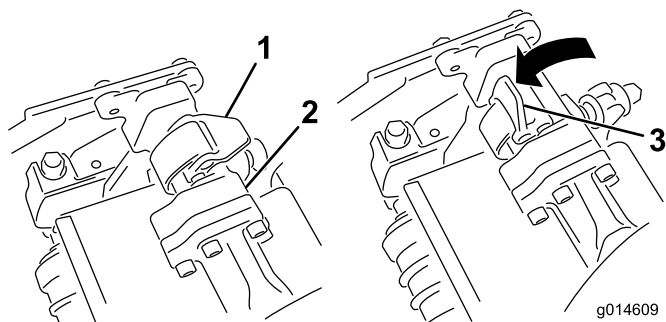
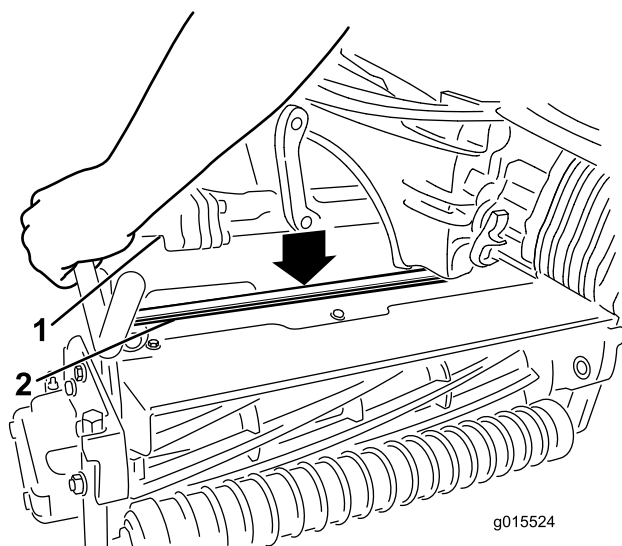

Figure 13
Figure 14
9. With the latches on the suspension-arm bar pointing up (i.e., open) (Figure 13), push the suspension arm down so that the bar fits over the bar across the top of the cutting unit (Figure 14).
10. Close the latches down and around the cutting-unit bar and lock them in place (Figure 13).